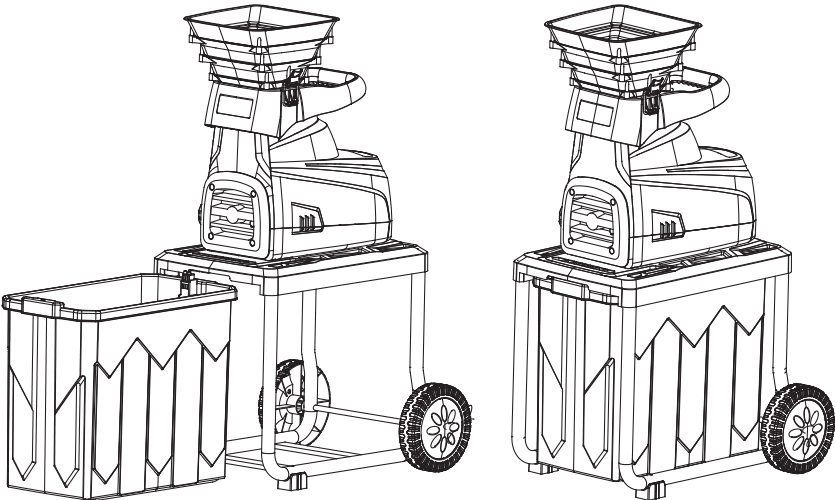

Fig. 5
6. Install collection box by pushing it into the frame beneath shredder body, See Fig. 5.